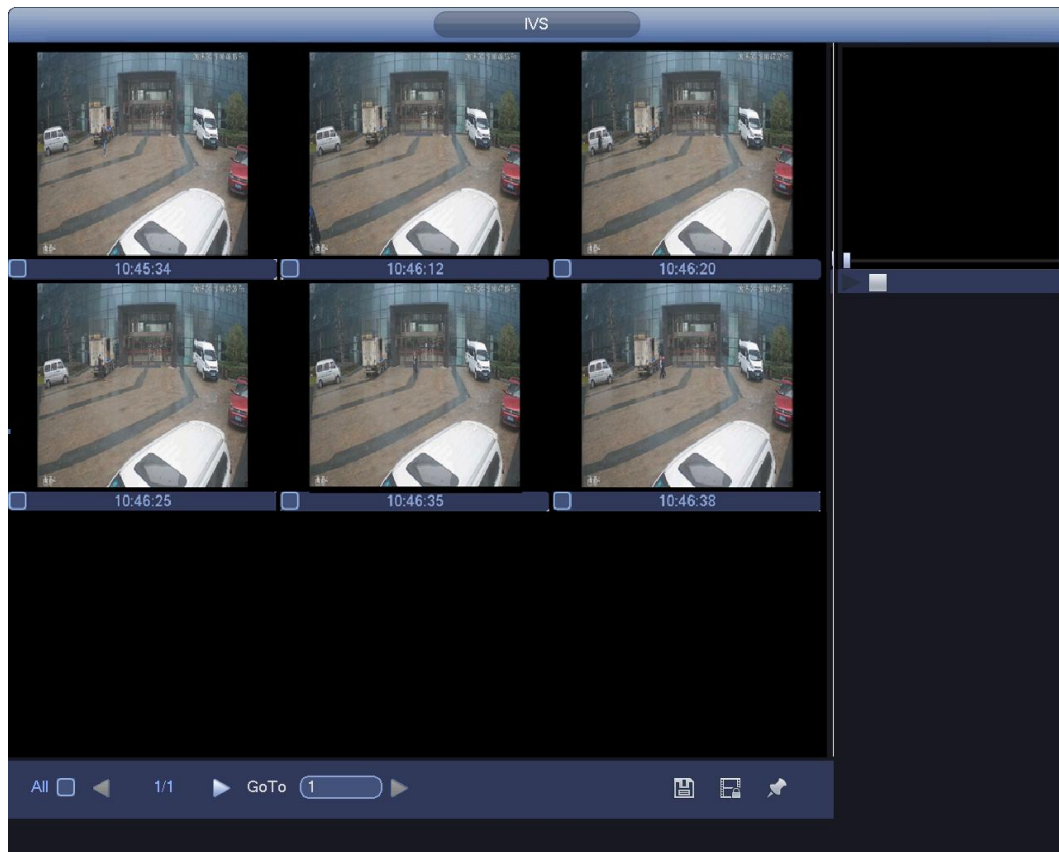

Figure 4-97
- Step 2 Select Channel, Start Time, End Time, Event Type and Alarm Object. Click Smart Search. The search results are displayed. See Figure 4-97.